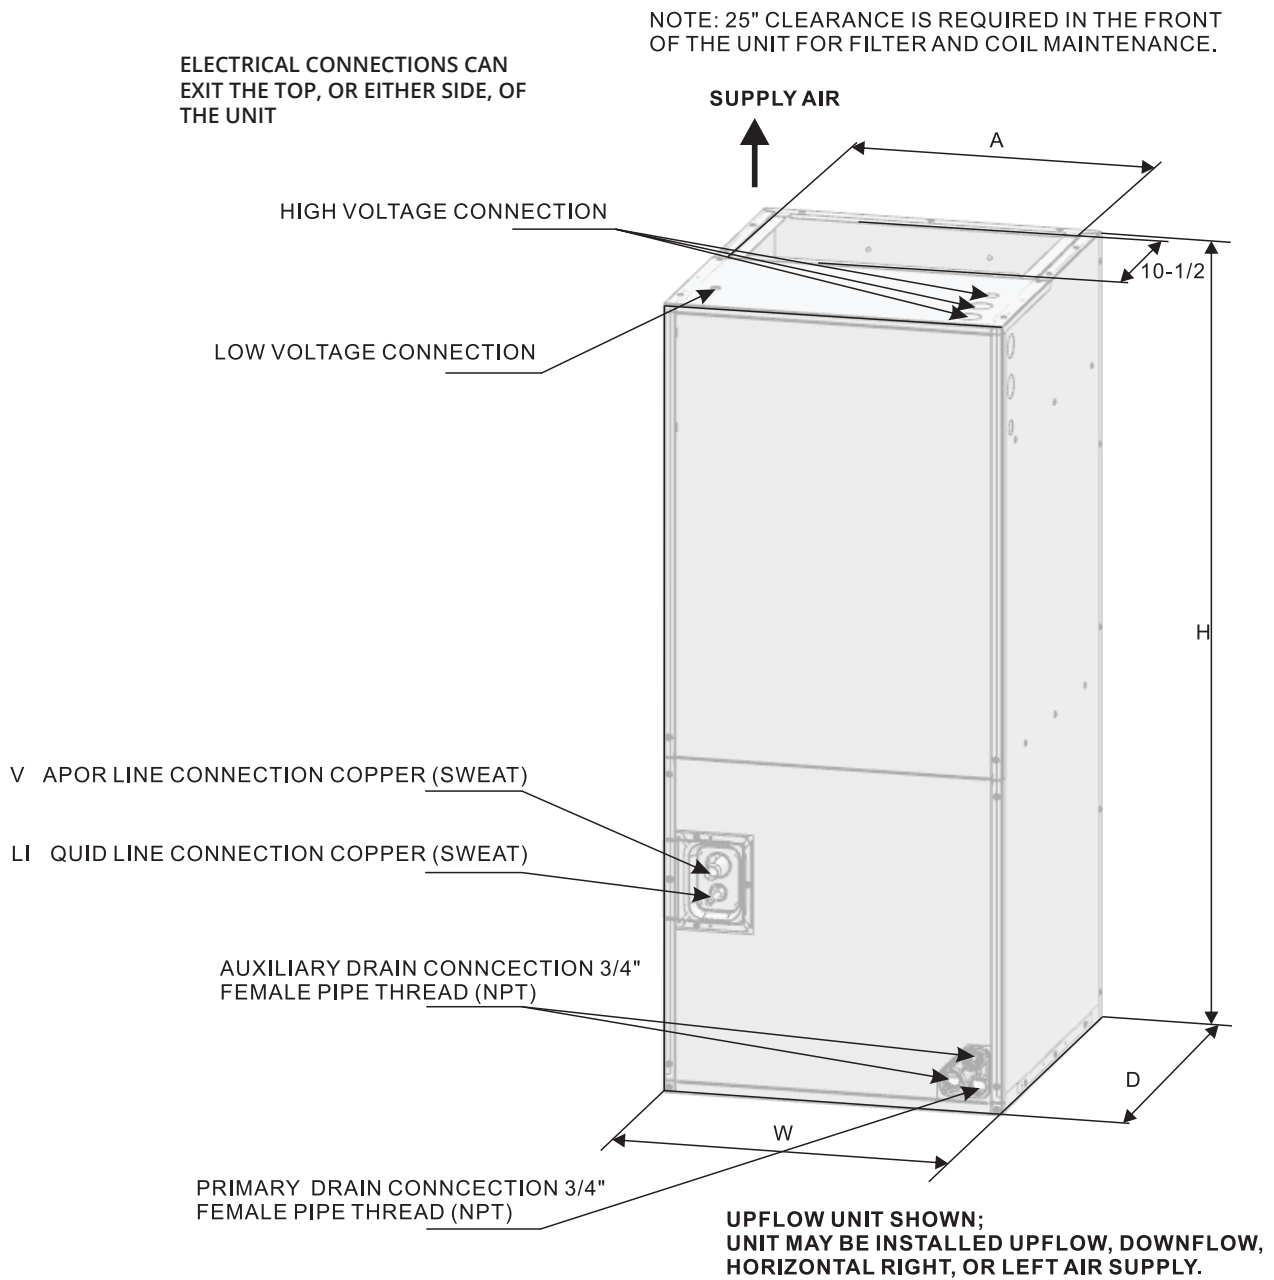

Fig.1 DIMENSIONS
Top and side power control wiring, and accessible screw terminals for control wiring, all combine to make the installation easy, and minimize installation cost. Please contact your local distributor (Refer to Fig.1).
- 1) Vertical Upflow configuration is the factory set on all models (**see Fig 1**)
Torque applied to drain connections should not exceed 15 ft. lbs. (**Refer to Fig.1 & 2**).